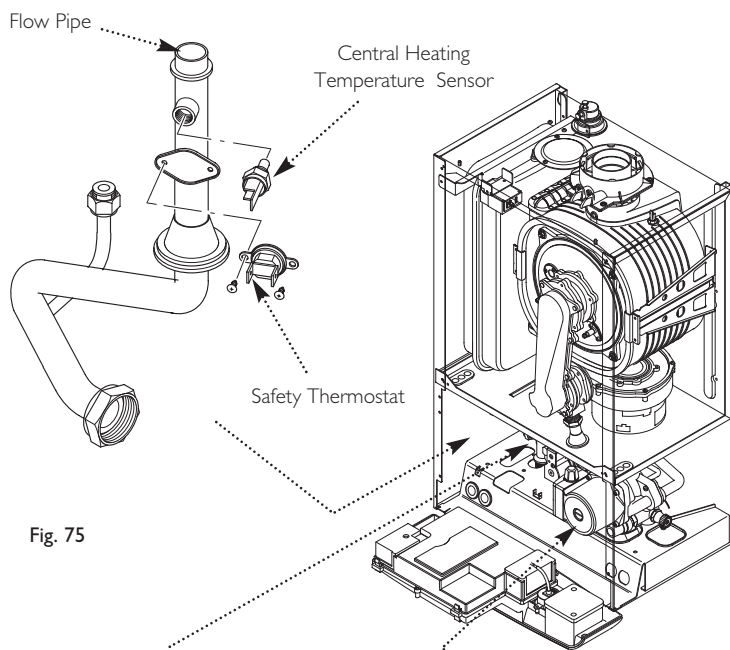

Fig. 75
14.10 Central Heating Temperature Sensor (NTC) (Fig. 75)
14.11 Safety Thermostat (Fig. 75)